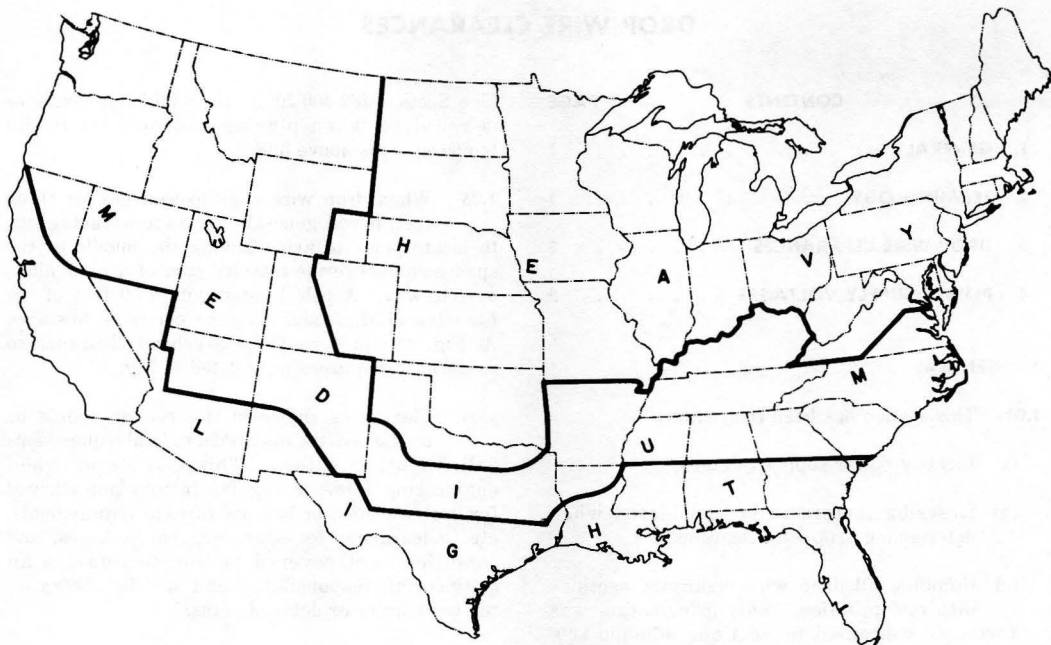

Fig. 1—Storm Loading Areas
- Storm Loading Areas:** Figure 1 identifies the three storm loading areas based upon studies made from records of wire using companies and data from the United States Weather Bureau. The frequency, severity, and effects of ice and windstorms in various sections of the country were the elements considered in establishing the loading area zones. As a result of the weather differences, allowances must be made for the stretching of conductors in their respective loading zones when placing a drop wire.